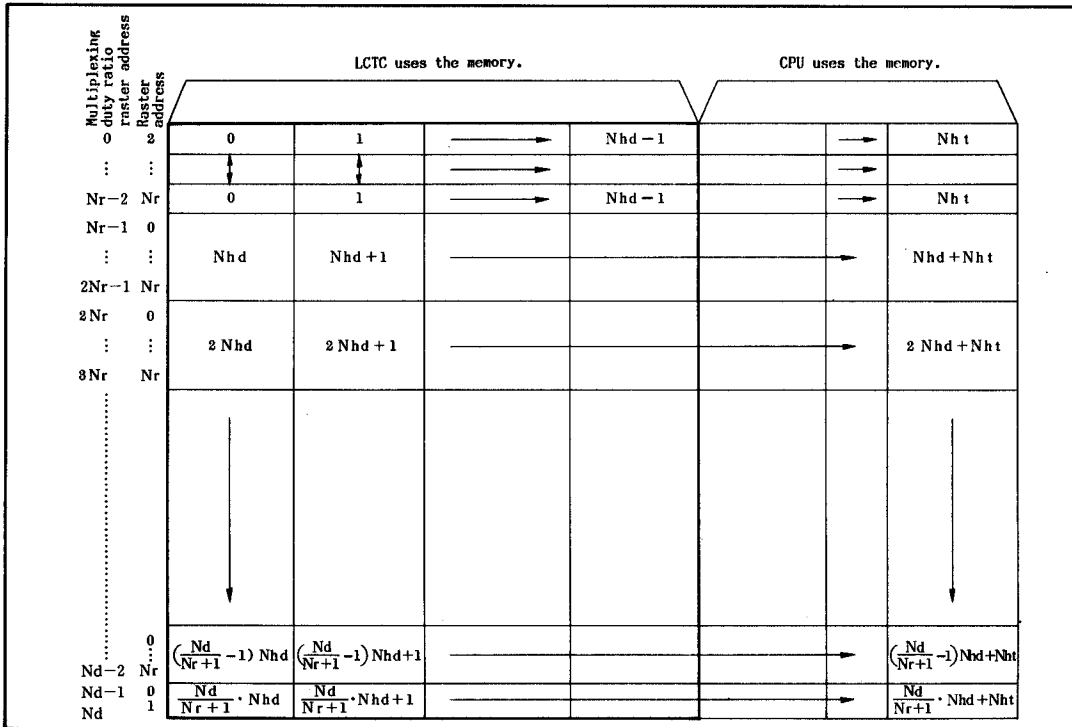

Figure 6-7 Relation between the Number of Displayed Characters and the Memory Addresses when $Nsr = 2$
Figure 6-7 shows the relation between the number of displayed characters and the memory addresses when $Nsr \neq 0$.
3. Figure 6-7 shows the screen in mode 5 (single screen, 4-bit data transfer, normal character mode).